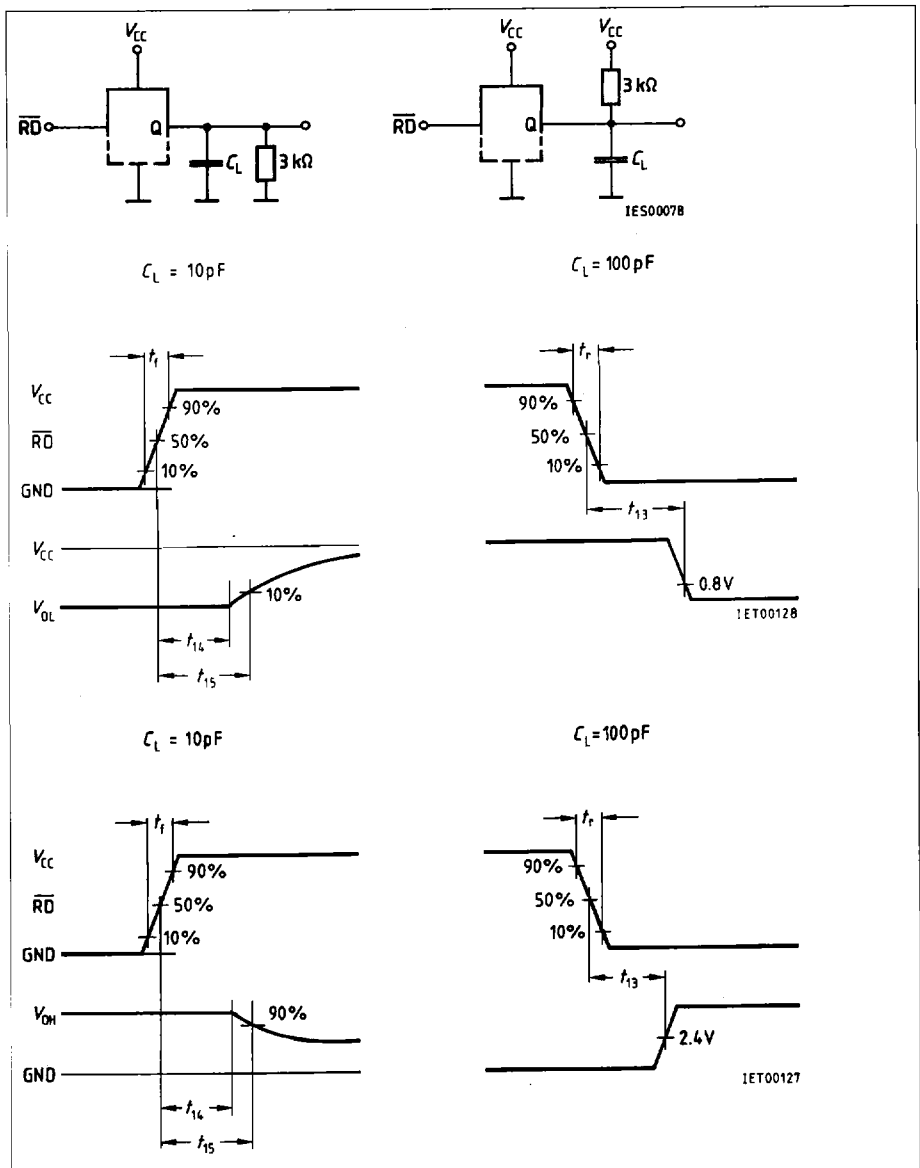

Figure 11
- t_{13} is measured with the load circuits of **figure 11** and defined as the time required for an output to cross 0.8 V or 2.4 V.
- t_{14} is defined as the time required for the data lines to change three-state, **see figure 11**.
- t_{15} is defined as the time required for the data lines to change 10%/90% when loaded with the circuits of **figure 11**.